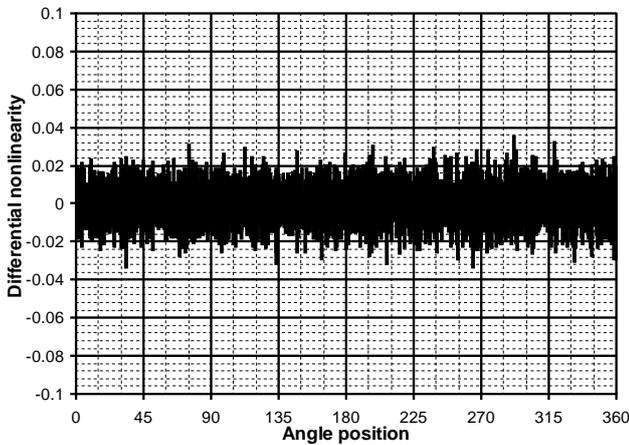

Fig. 15: Typical differential nonlinearity
**Differential nonlinearity** is the difference between the measured position step and the ideal position step. The position step is the output position difference between any two neighboring output positions, while the ideal position step is  $360^\circ$  divided by the resolution. Differential nonlinearity is mainly caused by noise. An additional  $0.02^\circ$  of differential nonlinearity is caused by the interpolator. Differential nonlinearity is always less than one position step because there is a system that prevents missing codes. Fig. 15 shows a typical differential nonlinearity plot of the AM8192B with 12 bit resolution, 22 nF filtering and default parameters.